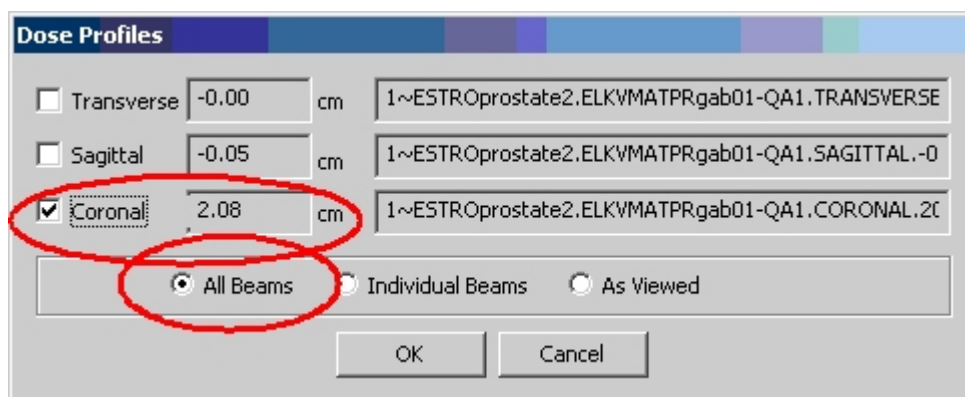

Figure 16 - Monaco "Dose Profiles" window
- as the "Dose Profiles" window opens, chose the desired 2D dose matrix and chose between "All Beams" or "Individual Beams" (Figure 16);